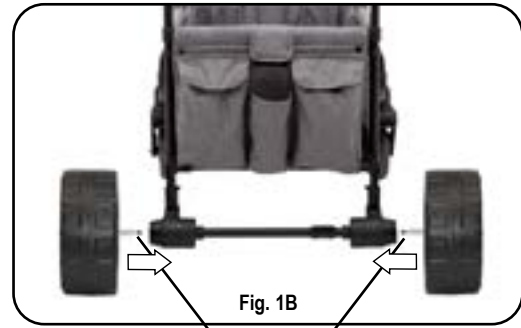

Fig. 1B
- To attach rear all-terrain wheels to axle: Push each rear all-terrain wheel into the axle housing as shown until they "CLICK" into a locked position (Fig. 1B).